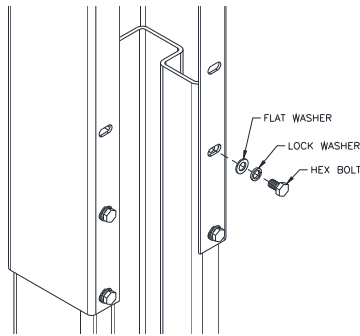
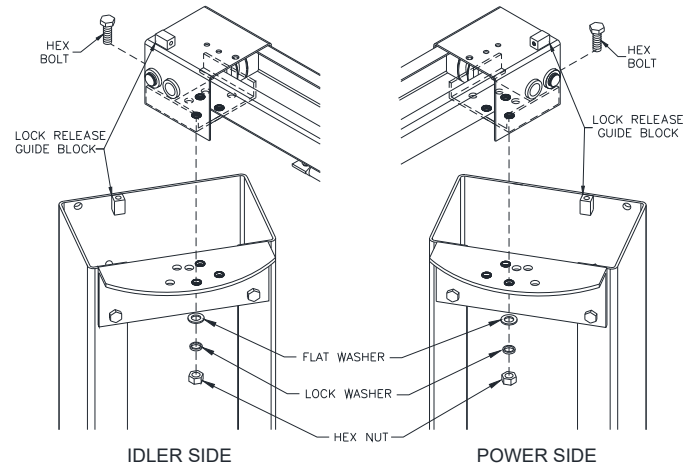

Fig 2 - Column Extension
Fig 10 – Asymmetric Overhead Mounting
- With columns still horizontal, assemble Power Column Extension to Power Column using (8 sets) M12 x 20 Hex bolts, flat washers, and lock washers. The (2) Column Extensions are not identical. **IMPORTANT: The Lock Release Guide Block at top of Column Extension should be in-line with Lock Release Pulley in Column. See Fig 10 for Clarification.** For the tall height setting, use bottom holes as shown in **Fig 2**. For the short setting, use the upper holes. Repeat for opposite Idler Column and Idler Column Extension.
- 19) Place the Overhead on top of the mounting brackets on Column Extensions and bolt together using (3 sets) M12 x 25 Hex bolt, nut, flat washer, and lock washer. Hand-tighten bolts to allow for column adjustment if needed. Use the holes highlighted in **Fig 10** below.